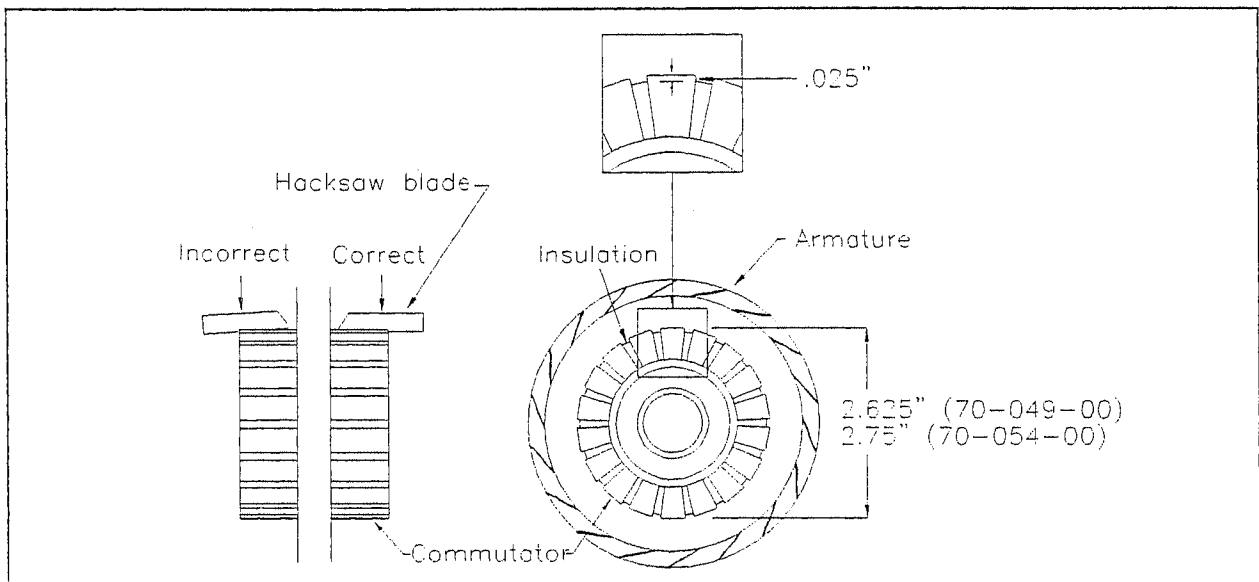

Figure 3-28
- Measure the undercut on the commutator. If it is less than .025", then the mica must be undercut (see figure 3-28).
less than the minimum operational diameter, then the armature is worn out and the motor must be replaced (see figure 3-28).